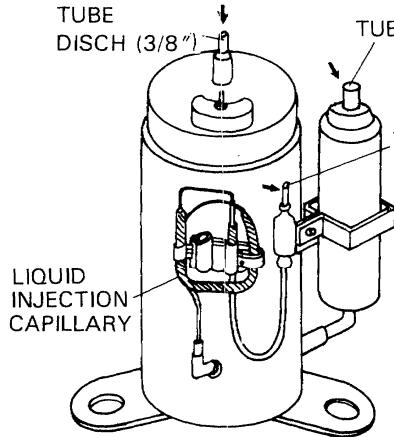

Fig. 19
- 5) With an Oxy-Acetylene torch apply heat uniformly and unbraze the joints of upper section of the Liquid Injection Capillary tube to the compressor, the upper section of the accumulator and the upper section of the compressor discharge tube respectively, and pull them free with pliers. Fig. 19 shows unbrazing points with arrows.